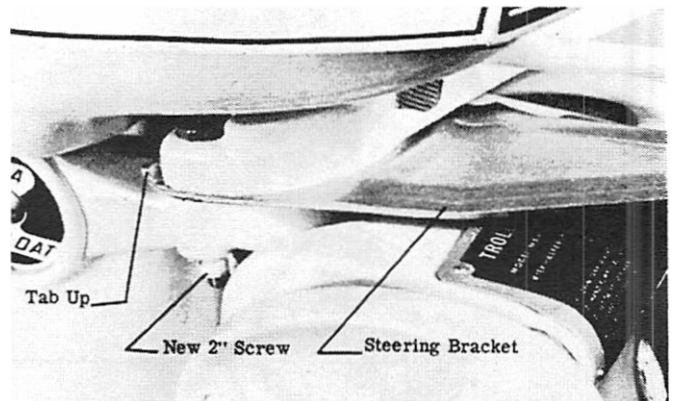

Figure 3. Steering Bracket Installed
1. Remove the 3 steering bracket-to-saddle cap screws and nuts to allow inside steering bracket to be installed between these 2 assemblies. (Figure 3)
5. Install steering bracket (tabs up). (Figure 3)